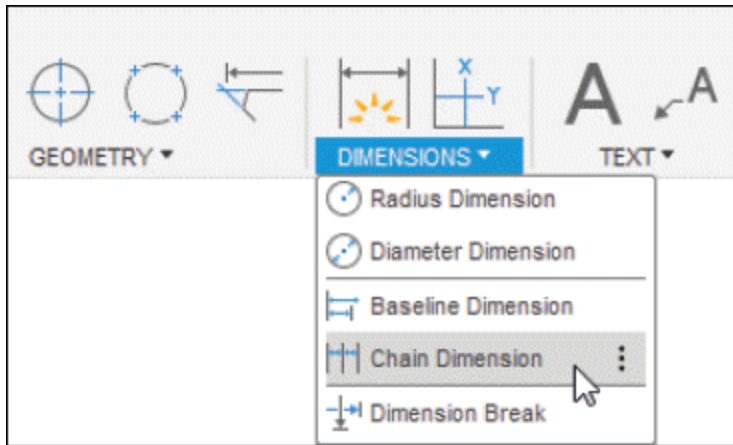

Figure-68. Chain Dimension tool
- Click on the **Chain Dimension** tool from the **DIMENSIONS** panel of the **Toolbar**; refer to Figure-68, and select the base dimension. You will be asked to specify